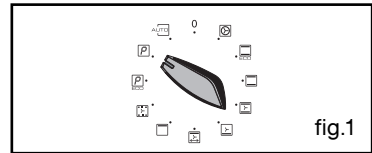

fig.1
- Open the door all the way and fix it in place using the two red stops (fig.1).
All you have to do is position your cooking selector-switch on the  “Self-cleaning” position or the  “ECO self-cleaning” position (fig.1).
- b) Unscrew the view port (fig.1).